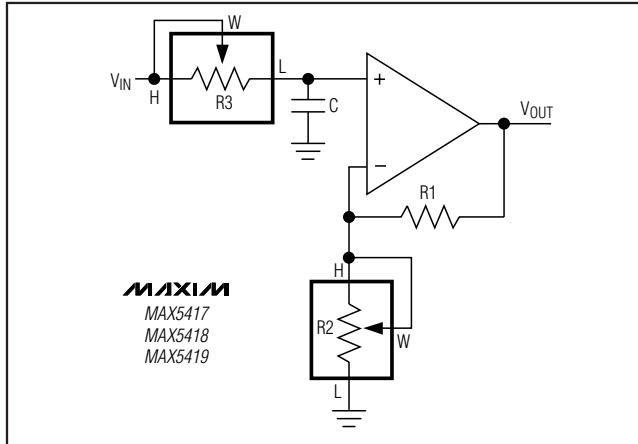

Figure 11. Programmable Filter
Figure 11 shows the configuration for a 1st-order programmable filter. The gain of the filter is adjusted by R2, and the cutoff frequency is adjusted by R3. Use the following equations to calculate the gain (G) and the 3dB cutoff frequency (f_C):